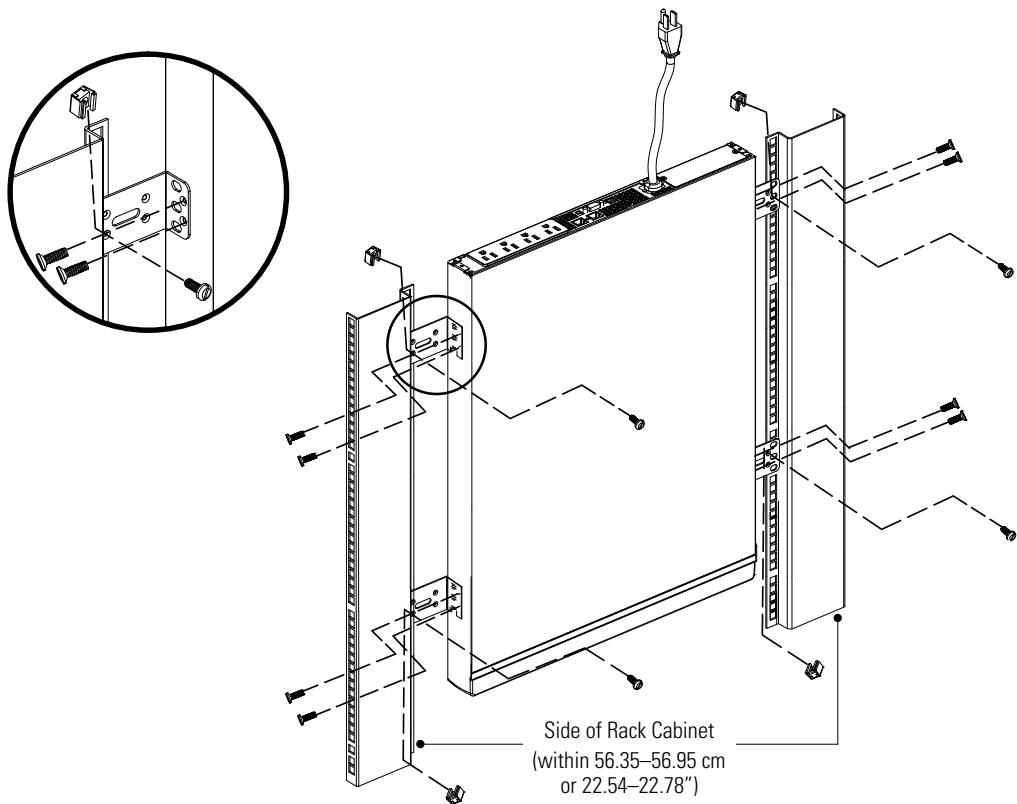

Figure 13. Zero-U Mounting
- 2.** Attach four mounting brackets to the UPS as shown in Figure 13. Secure the short end of the mounting bracket to the UPS using two of the supplied M3 × 6 screws.